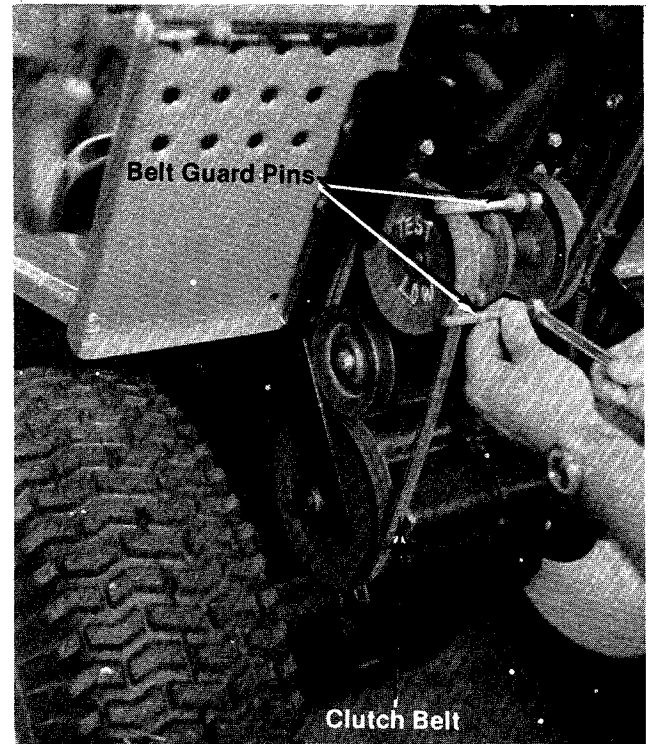

FIGURE 26
6. Remove the center bolt and slide the transaxle pulley off. (See figure 26.)